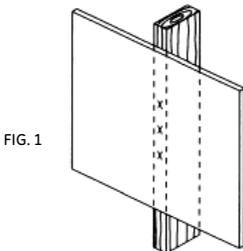

FIG. 1
3. While another person holds the wall plate in position, mark three locations for securing the mount to the wall (See Fig. 1).